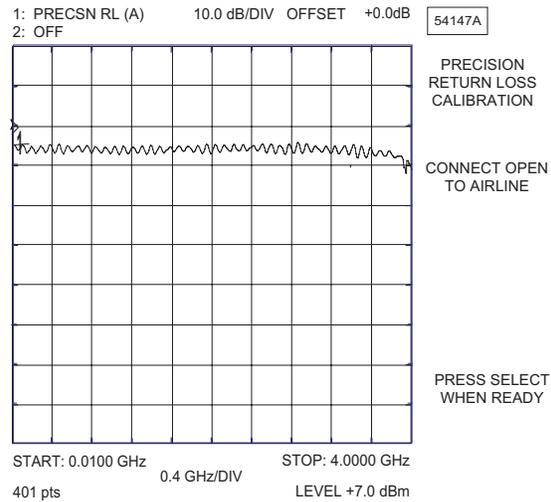

Figure 4. Example of a Good Connection
17. Verify that the display resembles that shown in Figure 4, page 8.